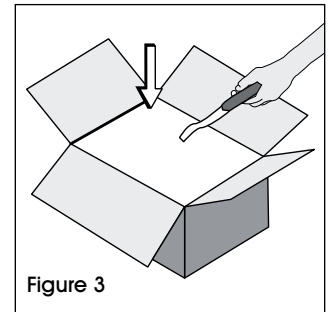

Figure 3
3. Place the bag on top of the box contents. (See Figure 3)